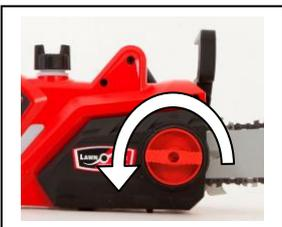

Fig.3
4. Loosen the red SDS knob (Fig.3) by turning it anti-clockwise and remove the chain cover.
## **CONNECTING THE CHAINSAW TO POWER (Fig.3)**